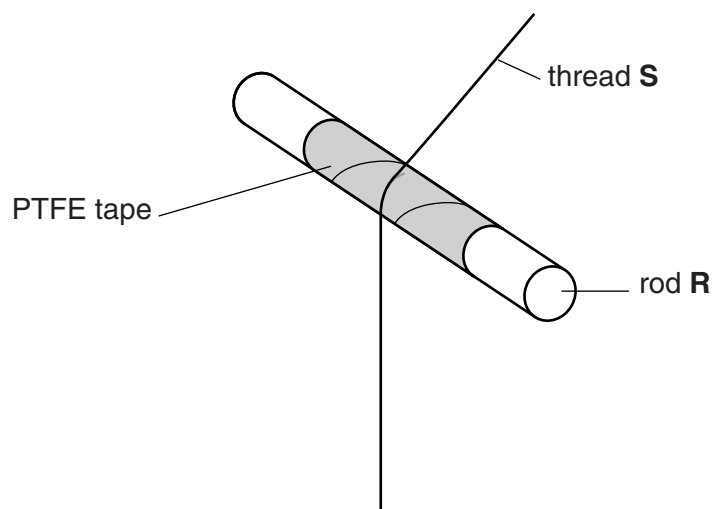

Fig. 1.3
- 10 Friction between the rod **R** and thread **S** is reduced by wrapping the rod with PTFE tape (see Fig. 1.3). The pivot rod may also be wrapped in PTFE tape if this is found to help the rod move more freely.